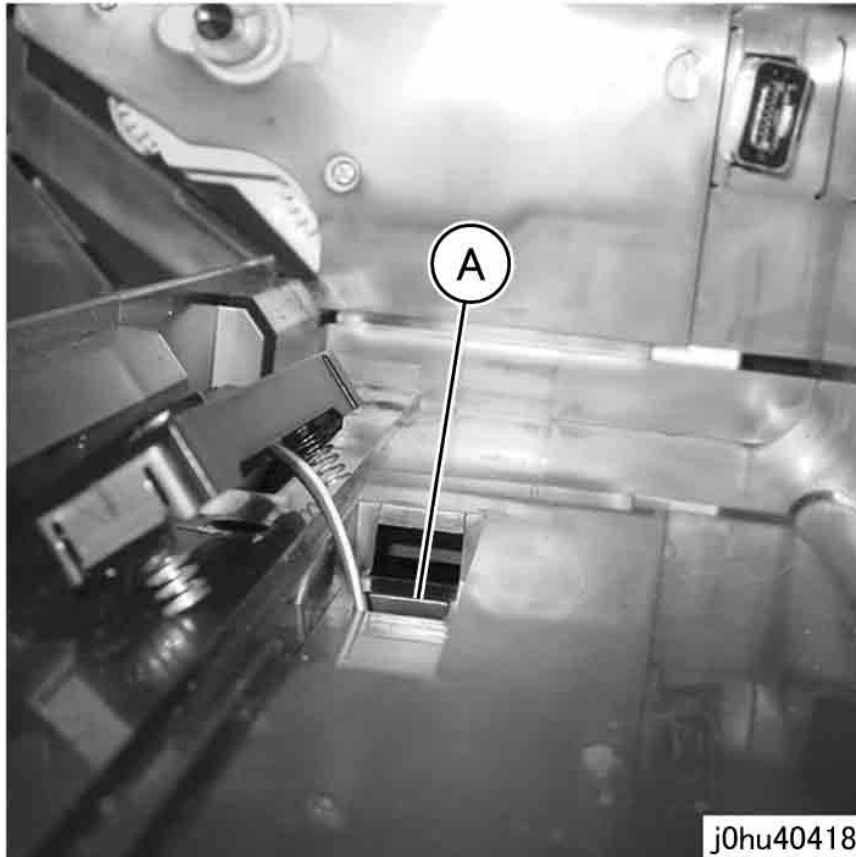

Figure 3 Install Connector Housing
2. Insert the Connector Housing of the Toner Empty Sensor into the square hole of the frame (Figure 3).
- (A) Square hole